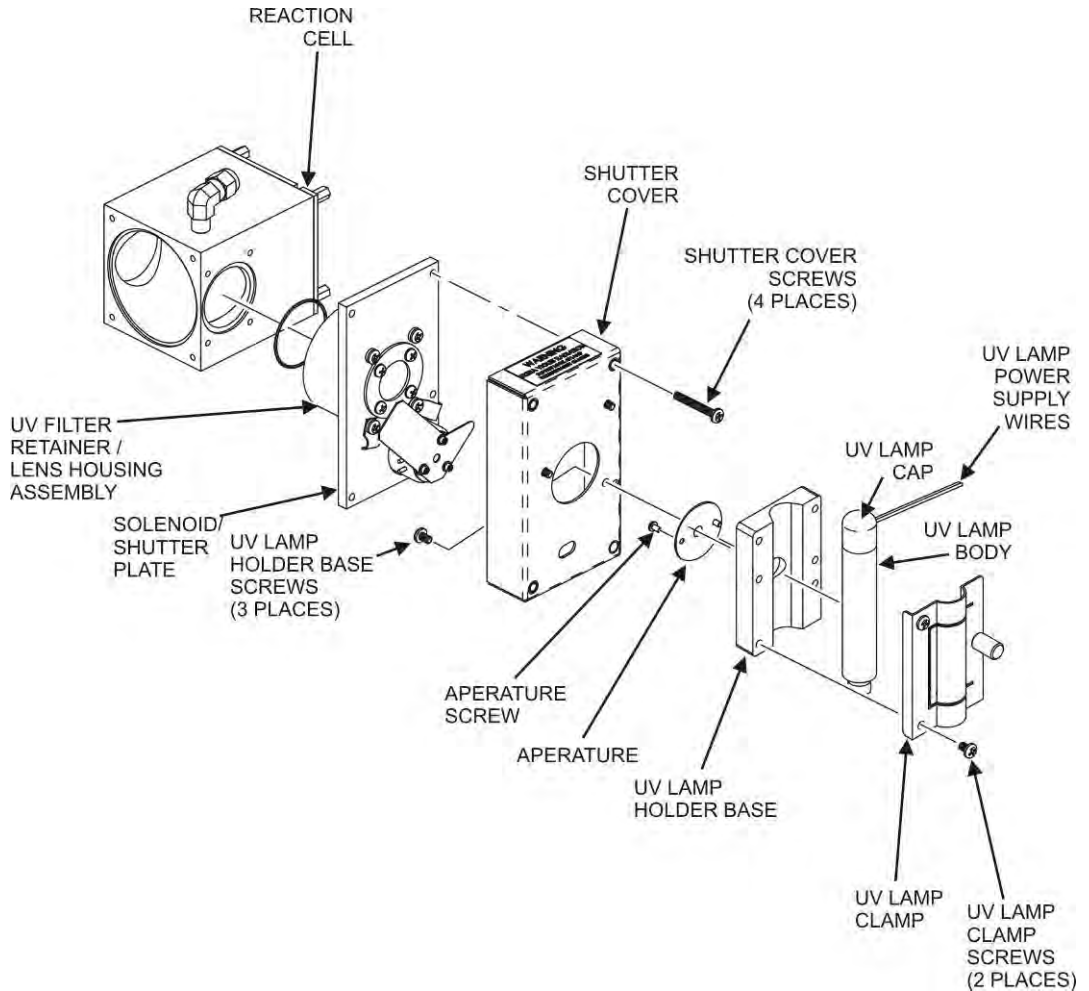
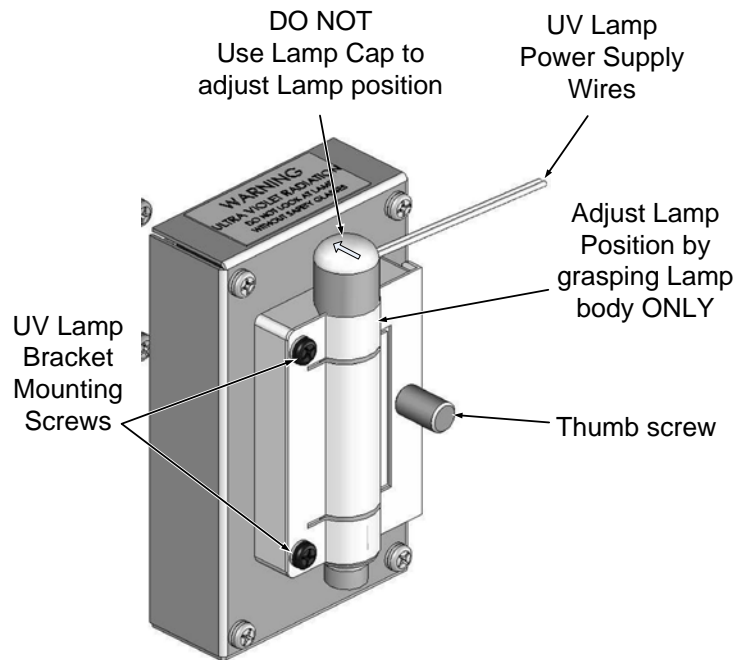

Figure 11-13: Shutter Assembly
Figure 11-14. UV Lamp Adjustment
4. Remove 4 screws from the shutter cover (refer to Figure 11-13) and remove the cover.
2. Slightly loosen the large brass thumbscrew located on the shutter housing (refer to Figure 11-14) so that the lamp can be moved.
**DO NOT grasp the UV lamp by its cap when changing its position - always grasp the main body of the lamp (refer to Figure 11-13). Inattention to this detail could twist and potentially disconnect the lamp's power supply wires.**
4. Loosen, but do not remove the two UV lamp bracket screws and the large brass thumbscrew located (refer to Figure 11-13 and Figure 11-14) on the shutter housing so that the lamp can be moved.
**DO NOT** grasp the UV lamp by its cap when changing its position - always grasp the main body of the lamp (refer to Figure 11-13) Inattention to this detail could twist and potentially disconnect the lamp's power supply wires.